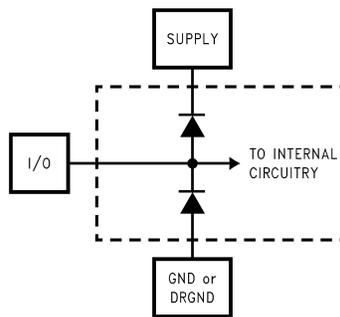

Figure 2.
- The inputs are protected as shown below. Input voltage magnitudes above  $V_A$  or below GND will not damage this device, provided current is limited see Note 4 in the Absolute Maximum Ratings table. However, errors in the A/D conversion can occur if the input goes above  $V_A$  or below GND by more than 100 mV. As an example, if  $V_A$  is +3.3V, the full-scale input voltage must be  $\leq +3.4V$  to ensure accurate conversions (see Figure 2).
- (1) The inputs are protected as shown below. Input voltage magnitudes above  $V_A$  or below GND will not damage this device, provided current is limited see Note 4 in the Absolute Maximum Ratings table. However, errors in the A/D conversion can occur if the input goes above  $V_A$  or below GND by more than 100 mV. As an example, if  $V_A$  is +3.3V, the full-scale input voltage must be  $\leq +3.4V$  to ensure accurate conversions (see Figure 2).
- (2) To guarantee accuracy, it is required that  $|V_A - V_D| \leq 100 mV$  and separate bypass capacitors are used at each power supply pin.
- (3) With the test condition for  $V_{REF} = +1.0V$  (2VP-P differential input), the 12-bit LSB is 488  $\mu V$ .
- (4) Timing specifications are tested at TTL logic levels,  $V_{IL} = 0.4V$  for a falling edge and  $V_{IH} = 2.4V$  for a rising edge.
- (5) Typical figures are at  $T_J = 25^\circ C$ , and represent most likely parametric norms. Test limits are guaranteed to AOQL (Average Outgoing Quality Level).